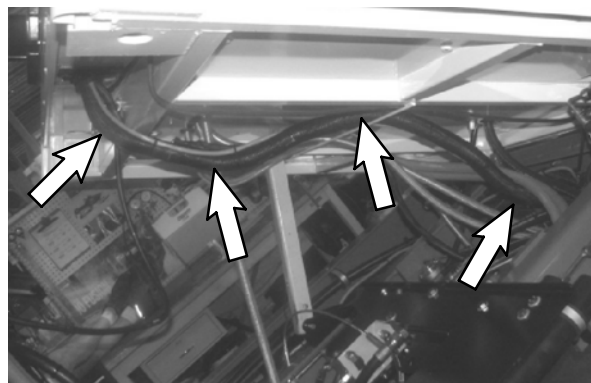

FIG. 26
43. Route the arrow stick cable assembly (2) underneath the cab along with the main wire harness. Use cable ties (13) to secure the arrow stick cable assembly to the wire harness. Refer to Fig. 26.